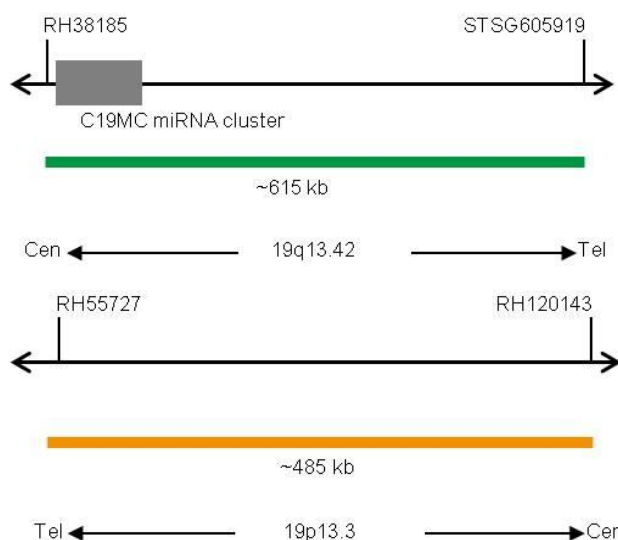

Fig. 1: Top: SPEC C19MC Probe map; Bottom: 19p13 Probe map (not to scale)
- ZyGreen (excitation 503 nm/emission 528 nm) labeled polynucleotides (~10.0 ng/μl), which target sequences mapping in 19q13.42* (chr19:54,156,239-54,768,983) harboring the C19MC locus (see Fig. 1).
- ZyOrange (excitation 547 nm/emission at 572 nm) labeled polynucleotides (~4.5 ng/μl), which target sequences mapping in 19p13.3* (chr19:658,555-1,144,465) (see Fig. 1).